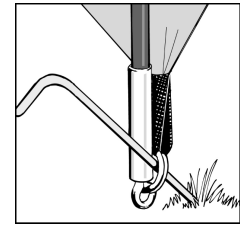

Figure 2
- Peg the corners of the tent through the metal rings using pin-pegs. It is important to drive the peg into the ground at a 45 degree angle to obtain the best grip. **(See Figure 2).**